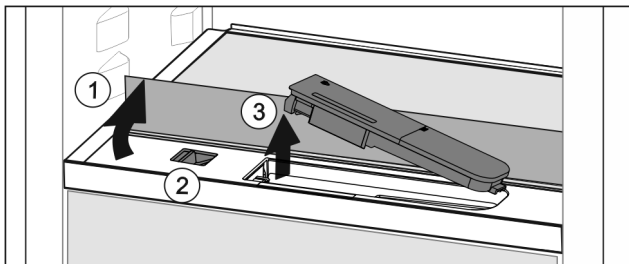

Fig. 44
- Lift the glass panel and fold to the back as far as it will go Fig. 44 (1).
- Slide the slider Fig. 44 (2) to the left.
- Remove the water tank Fig. 44 (3).